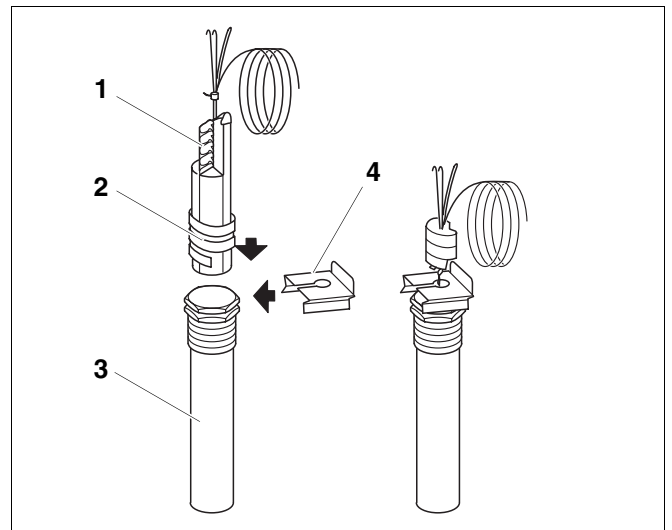

Fig. 20 Capillary tubes with sensor and sensor well
- During the insertion, the plastic spiral (Fig. 20, **Item. 2**) holding the sensor together slides back automatically. To ensure a perfect contact between the sensor well (Fig. 20, **Item. 3**) and the sensor surfaces - thereby guaranteeing the safe temperature transfer - push the compensating spring (Fig. 20, **Item. 1**).
- Push the sensor holder (Fig. 20, **Item. 4**) from the side or from above over the sensor well head.